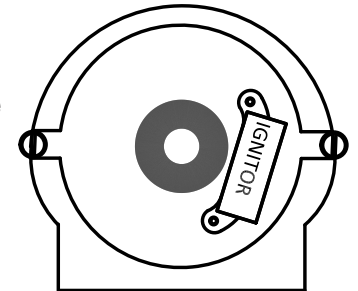

FIGURE 4
6. Install Ignitor onto distributor and secure with original screws. **See Figure 4.**